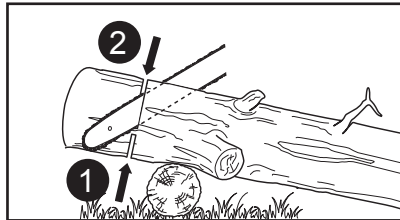

Fig. 30
2. When the log is supported on one end (Fig. 30), cut 1/3 the diameter from the underside (underbuck). Then make the finished cut by overbucking to meet the first cut.